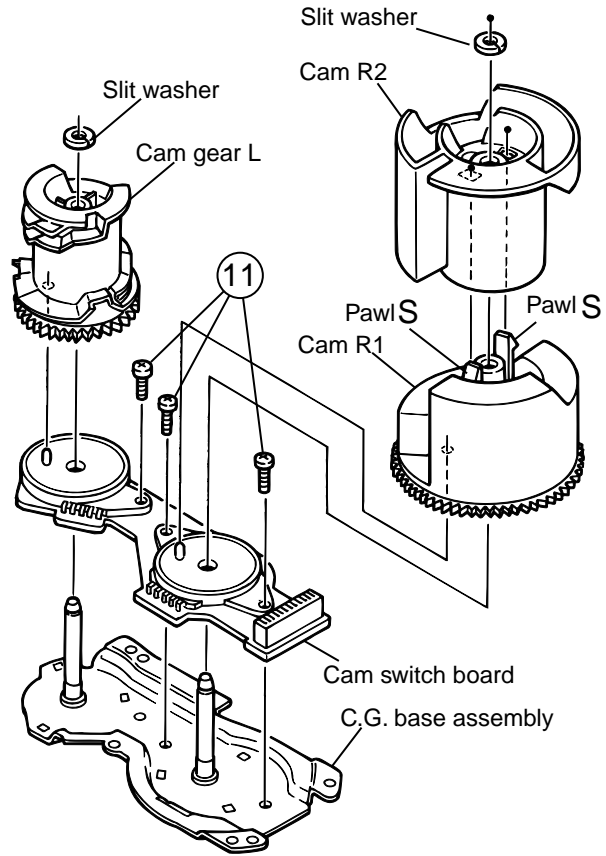

Fig.22
**■ Removing the cams R1/R2 assembly and cam gear L(See Fig.22)**
**■ Removing the C.G. base assembly (See Fig.22 and 23)**